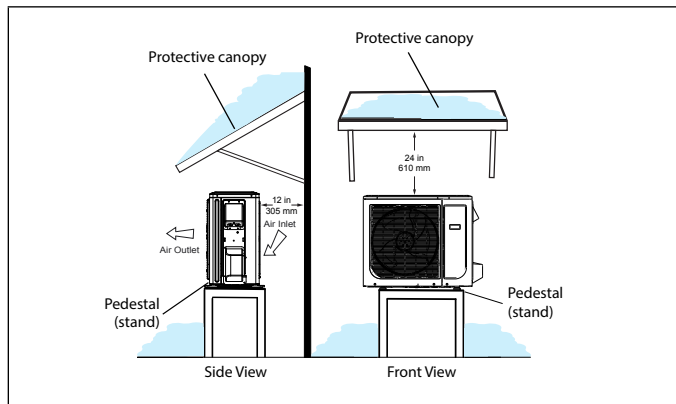
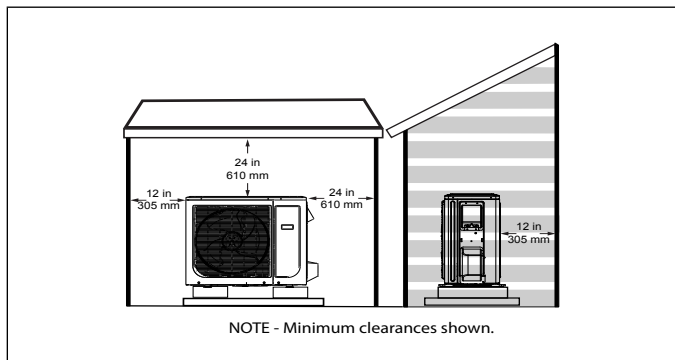

Figure 19. Outdoor Unit on Pedestal and Protective Canopy
Figure 24. Dog House-Style Shelter
- If the outdoor unit is subjected to prolong exposure to direct sunlight with temperatures over 100°F (38°C) a canopy is recommended as illustrated in “Figure 19. Outdoor Unit on Pedestal and Protective Canopy” or “Figure 24. Dog House-Style Shelter” on page 16
- Place unit away from overhanging roof lines which would allow water or ice to drop on, or in front of, coil or into unit. Construct a canopy as illustrated in “Figure 19. Outdoor Unit on Pedestal and Protective Canopy”
- Outdoor unit can be installed in a dog house style shelter as illustrated in “Figure 24. Dog House-Style Shelter”